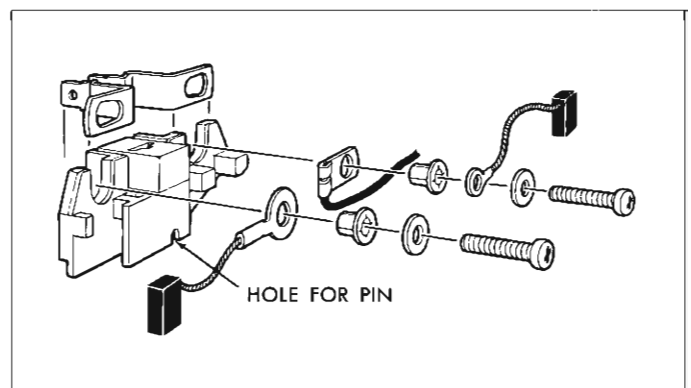

Fig. 27—Installing Brushes - 5.5" Delcotron
2. Attach brush holder assembly to the new end frame noting carefully proper parts stack-up (fig. 27), and insert pin or wire through the hole (fig. 27) to hold the brushes in the holder. After the unit has been completely assembled, withdraw the pin or wire from the end frame hole to allow the brushes to drop down onto the slip rings.